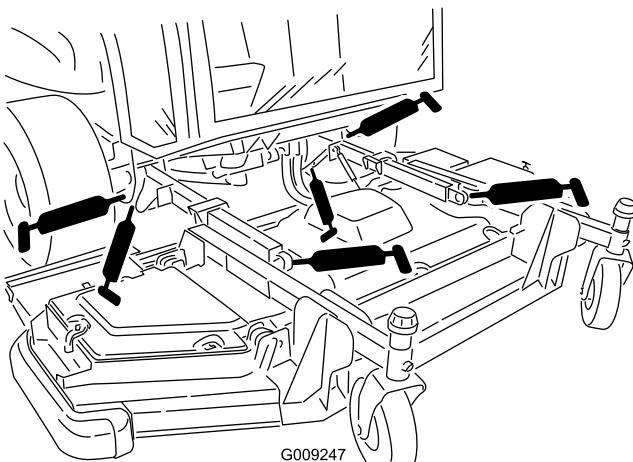

Figure 53
- 2 lift-arm bushings (Figure 53)
- 2 lift-arm ball joints (Figure 53)
- 2 front deck-lift-cylinder pivots (Figure 53)